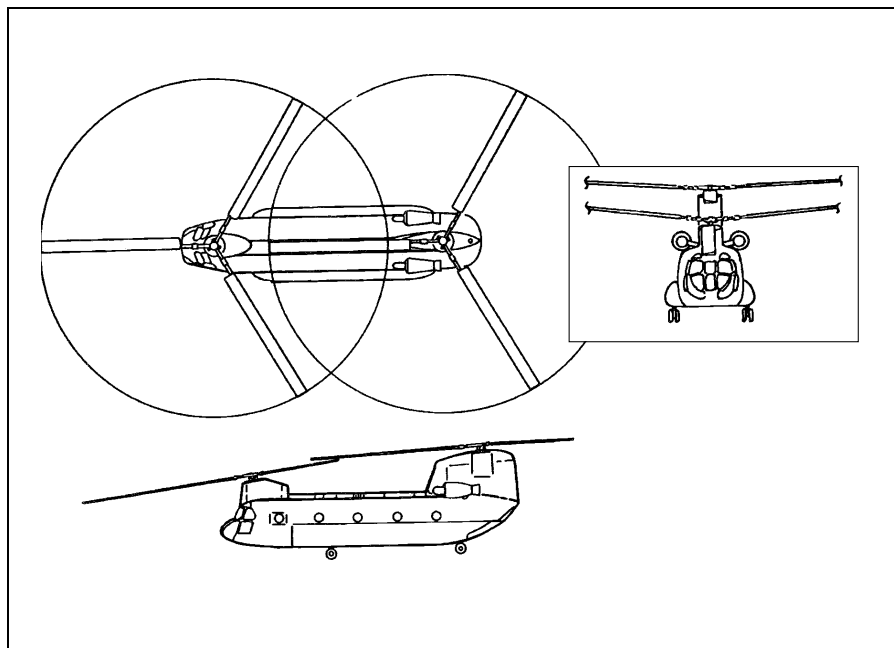

Figure B-8. CH-47 B/D (Chinook).
b. **CH-47 B/D Chinook.** Table B-8 shows specifications for the CH-47B/D Chinook; Figure B-8 shows it from three angles: